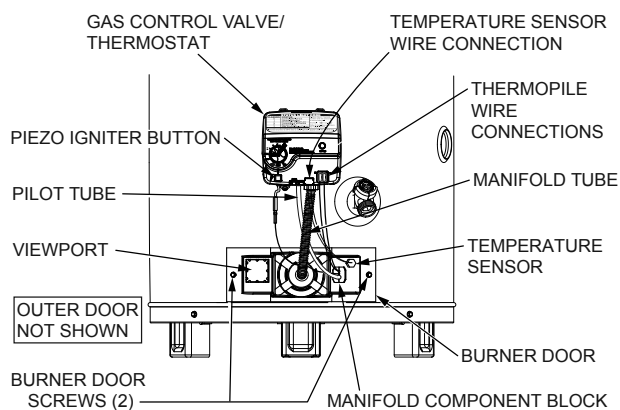

FIGURE 24.
4. Remove the two screws (1/4" nut driver) securing the burner door assembly to the combustion chamber (Figure 24).
5. Disconnect the pilot tube (7/16" wrench), the igniter wire from the igniter lead wire, and manifold tube (3/4" wrench) at the gas control valve/thermostat. Disconnect the sensor wires (lift white lever outward, then gently pull the plug downward). Also, use needle nose pliers to disconnect the red (+) and white (-) thermopile wires from the gas control valve/thermostat. See Figures 24 & 25.